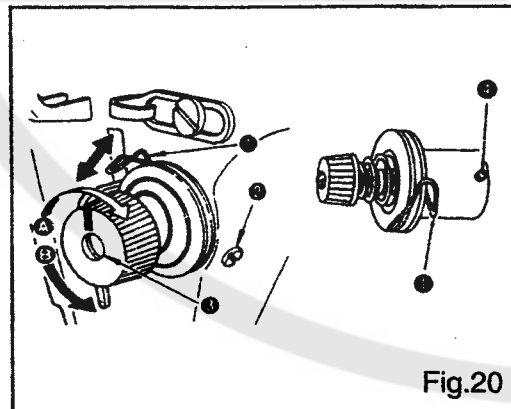

Fig.20
1)As you turn tension adjust screw ③ clockwise(in direction ➎),the bobbin thread tension will be increased.
2)As you turn screw ③ counterclockwise (in direction ➏), the bobbin thread tension will be decreased.
16.THREAD TAKE-UP SPRING(Fig.20)